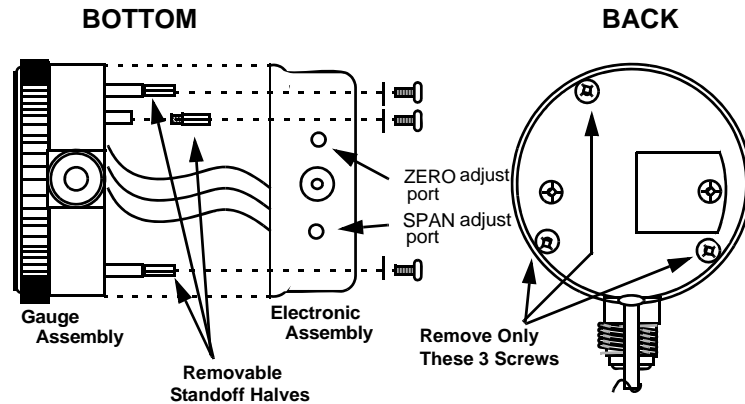

Figure 2: Typical Assembly/Disassembly
Under normal conditions, it will not be necessary to disassemble the IPT. If however disassembly is necessary, follow the following steps. (See Figure 2:, Typical Assembly/Disassembly and "IPT122 Inside Views" on page 6)
1. Insert sensor plug into socket, verifying that the wires on the plug exit as in the illustration (See Figure 2:, Typical Assembly/Disassembly and "IPT122 Inside Views" on page 6)
2. Install three (3) standoff halves.
4. Install three (3) screws on back of gauge.